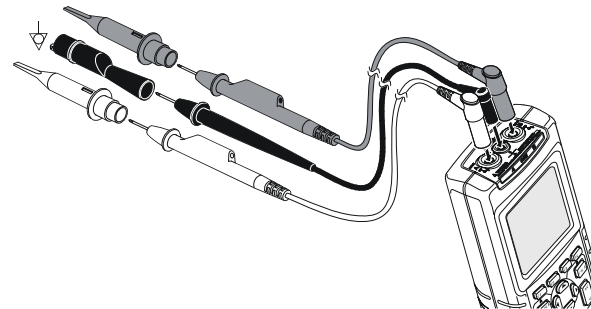

Figure 9-3. Grounding with Unshielded Ground Lead
- Use the unshielded black ground lead to COM (common) for Ohm (Ω), Continuity, Diode, and Capacitance measurements. (See Figure 9-3.)